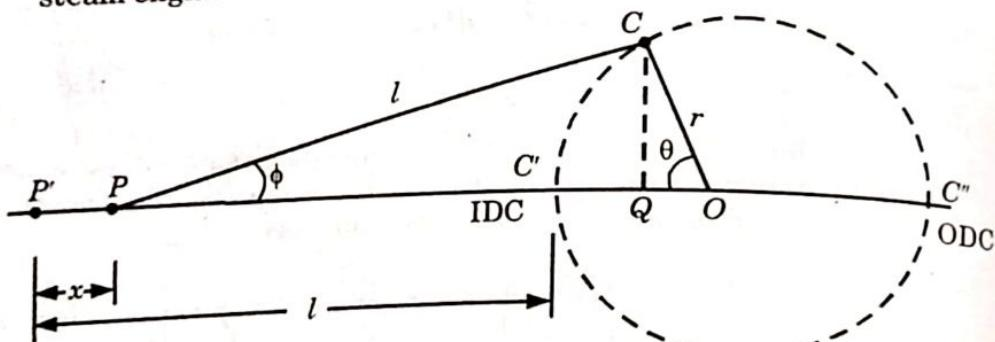

Fig. 3.7.1.
1. Consider the motion of a crank and connecting rod of a reciprocating steam engine as shown in Fig. 3.7.1.
3. From the geometry of Fig. 3.7.1.